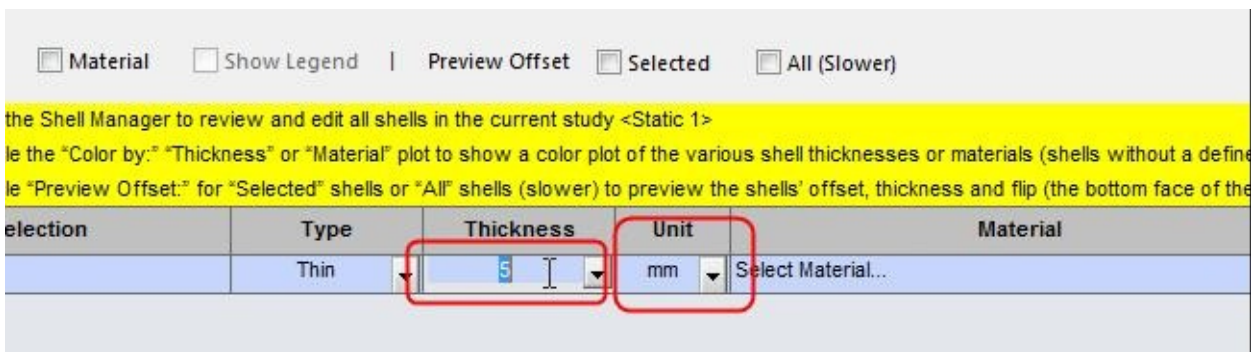

Figure-26. Uniform thickness applied
- If the object has uniform thickness then click in the cell under **Thickness** column in the **Shell Manager** pane and enter the desired thickness value; refer to Figure-26. Make sure that you have selected right unit from the **Unit** column in the pane.